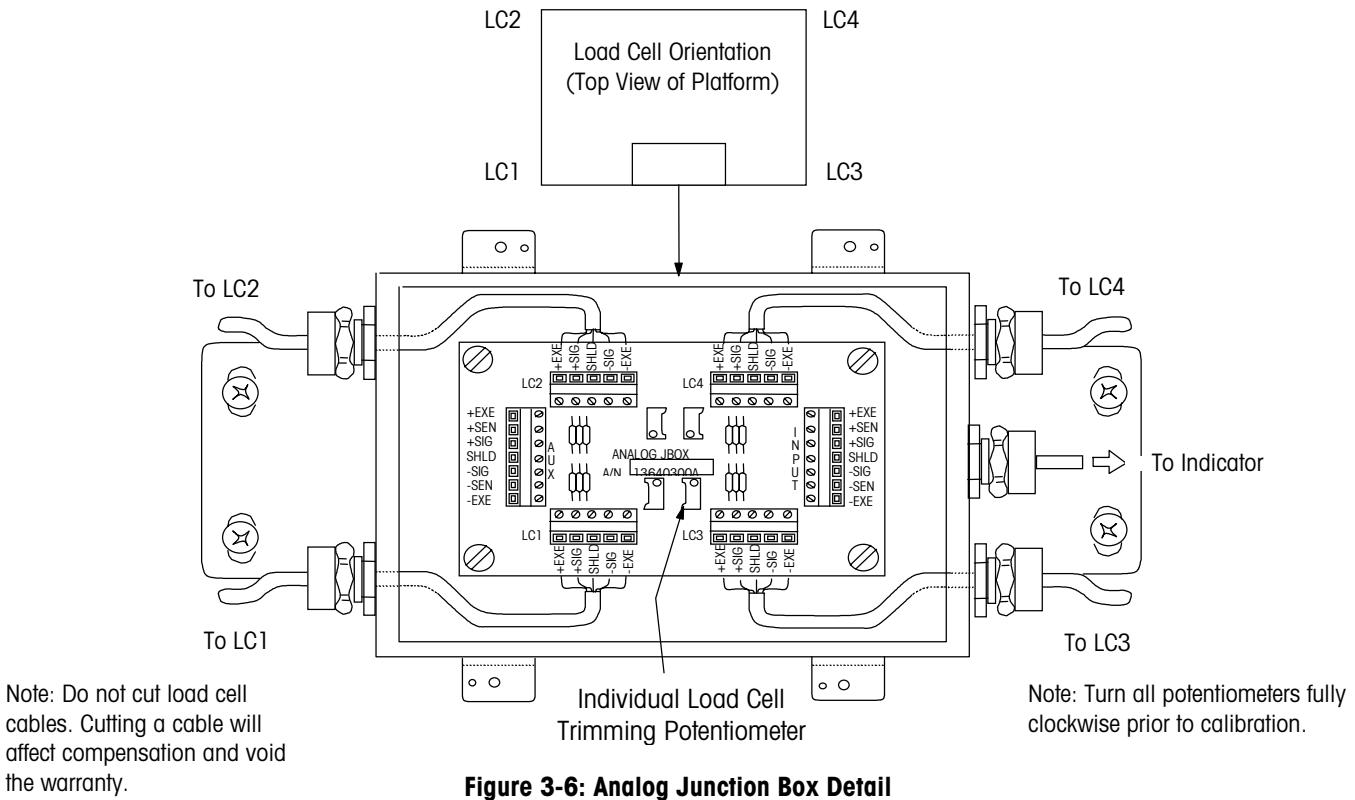
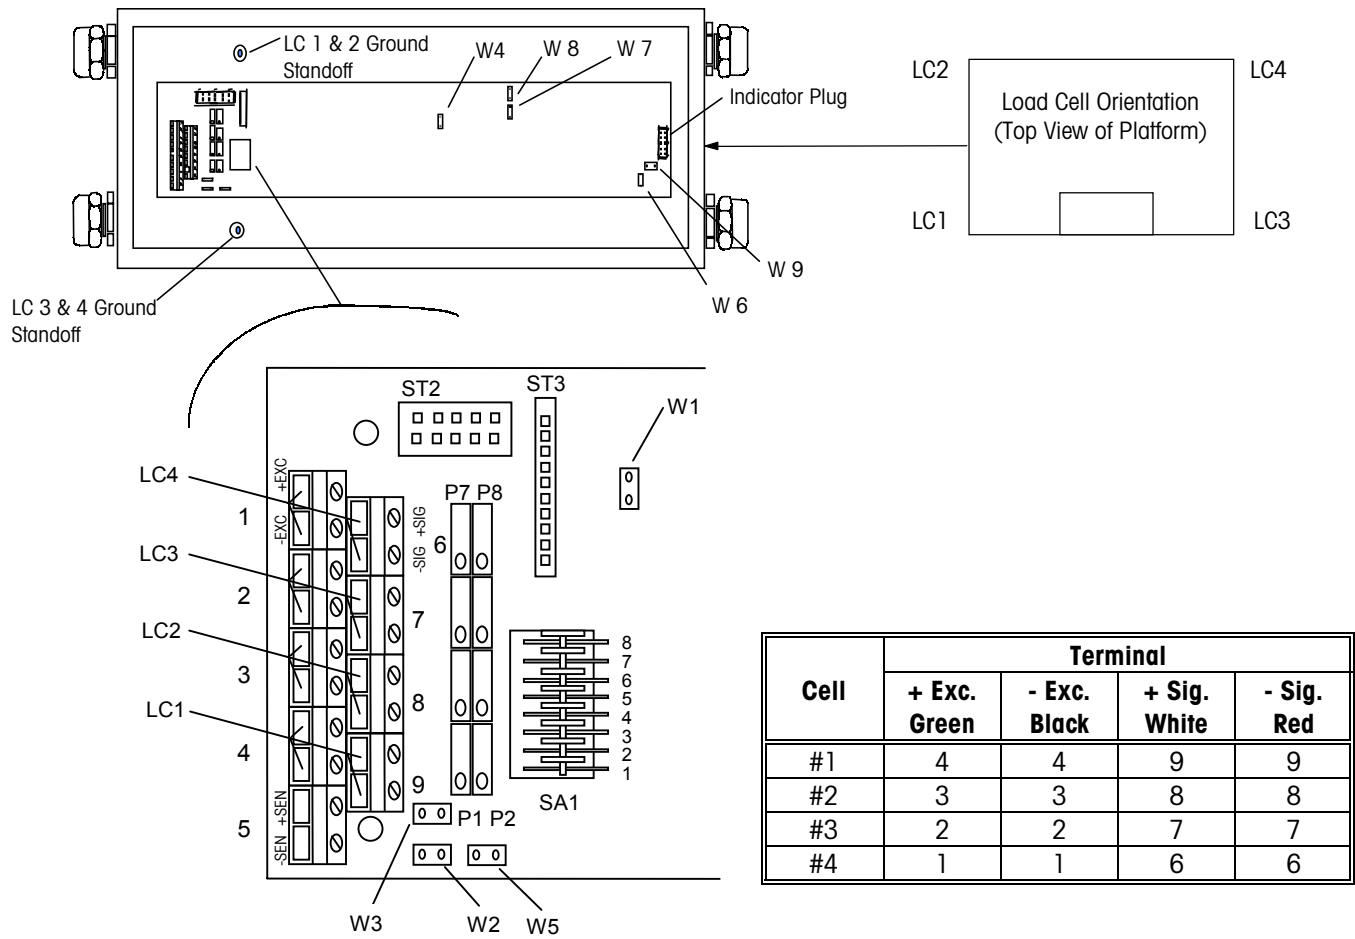

Figure 3-6: Analog Junction Box Detail
Figure 3-8: IDNet Junction Box Detail and Wiring
7. Connect the instrument cable to the INPUT terminal on the PCB as shown in Figure 3-6 For Analog, Figure 3-7 For DigiTOL, or Figure 3-8 For IDNet.
A Model 2158 floor scale is used with an analog junction box for summing the load cell outputs. Only analog-compatible indicators work with the analog junction box. See Figure 3-6 and Table 3-1 for the correct cable connection.
A Model 2162 floor scale is used with an IDNet junction box to output an IDNet data format compatible with the METTLER TOLEDO ID1 and ID5 weight display, or the Jaguar industrial terminal. See Figure 3-8 and Table 3-3 for cable connections. For information about the indicator and how to operate it, refer to the appropriate indicator manual.